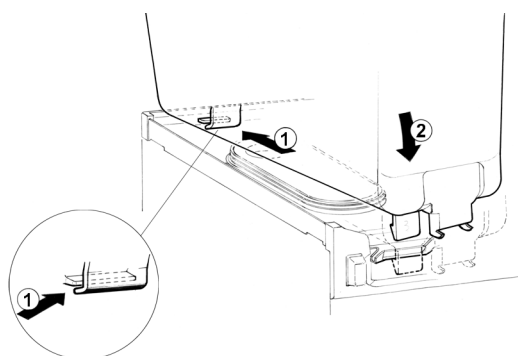

figure 7
- 5 Place bowl on the unit. Wet the gasket for ease of insertion. Please take care that the hook on the backside of the bowl be inserted properly in its seat on the upper drip plate. (see figure 7).